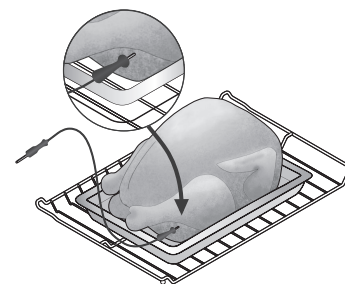

Figure 17: Probe in thickest part of thigh
- For whole poultry or turkey, fully insert the probe sensor into the thickest part of inner thigh, just below the leg (See Figure 17).